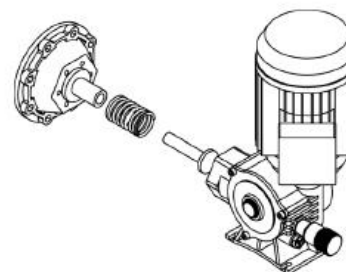

Figure 13
- ◆ After replacement, install the push rod, spring and transition section in sequence. (see figure 13)